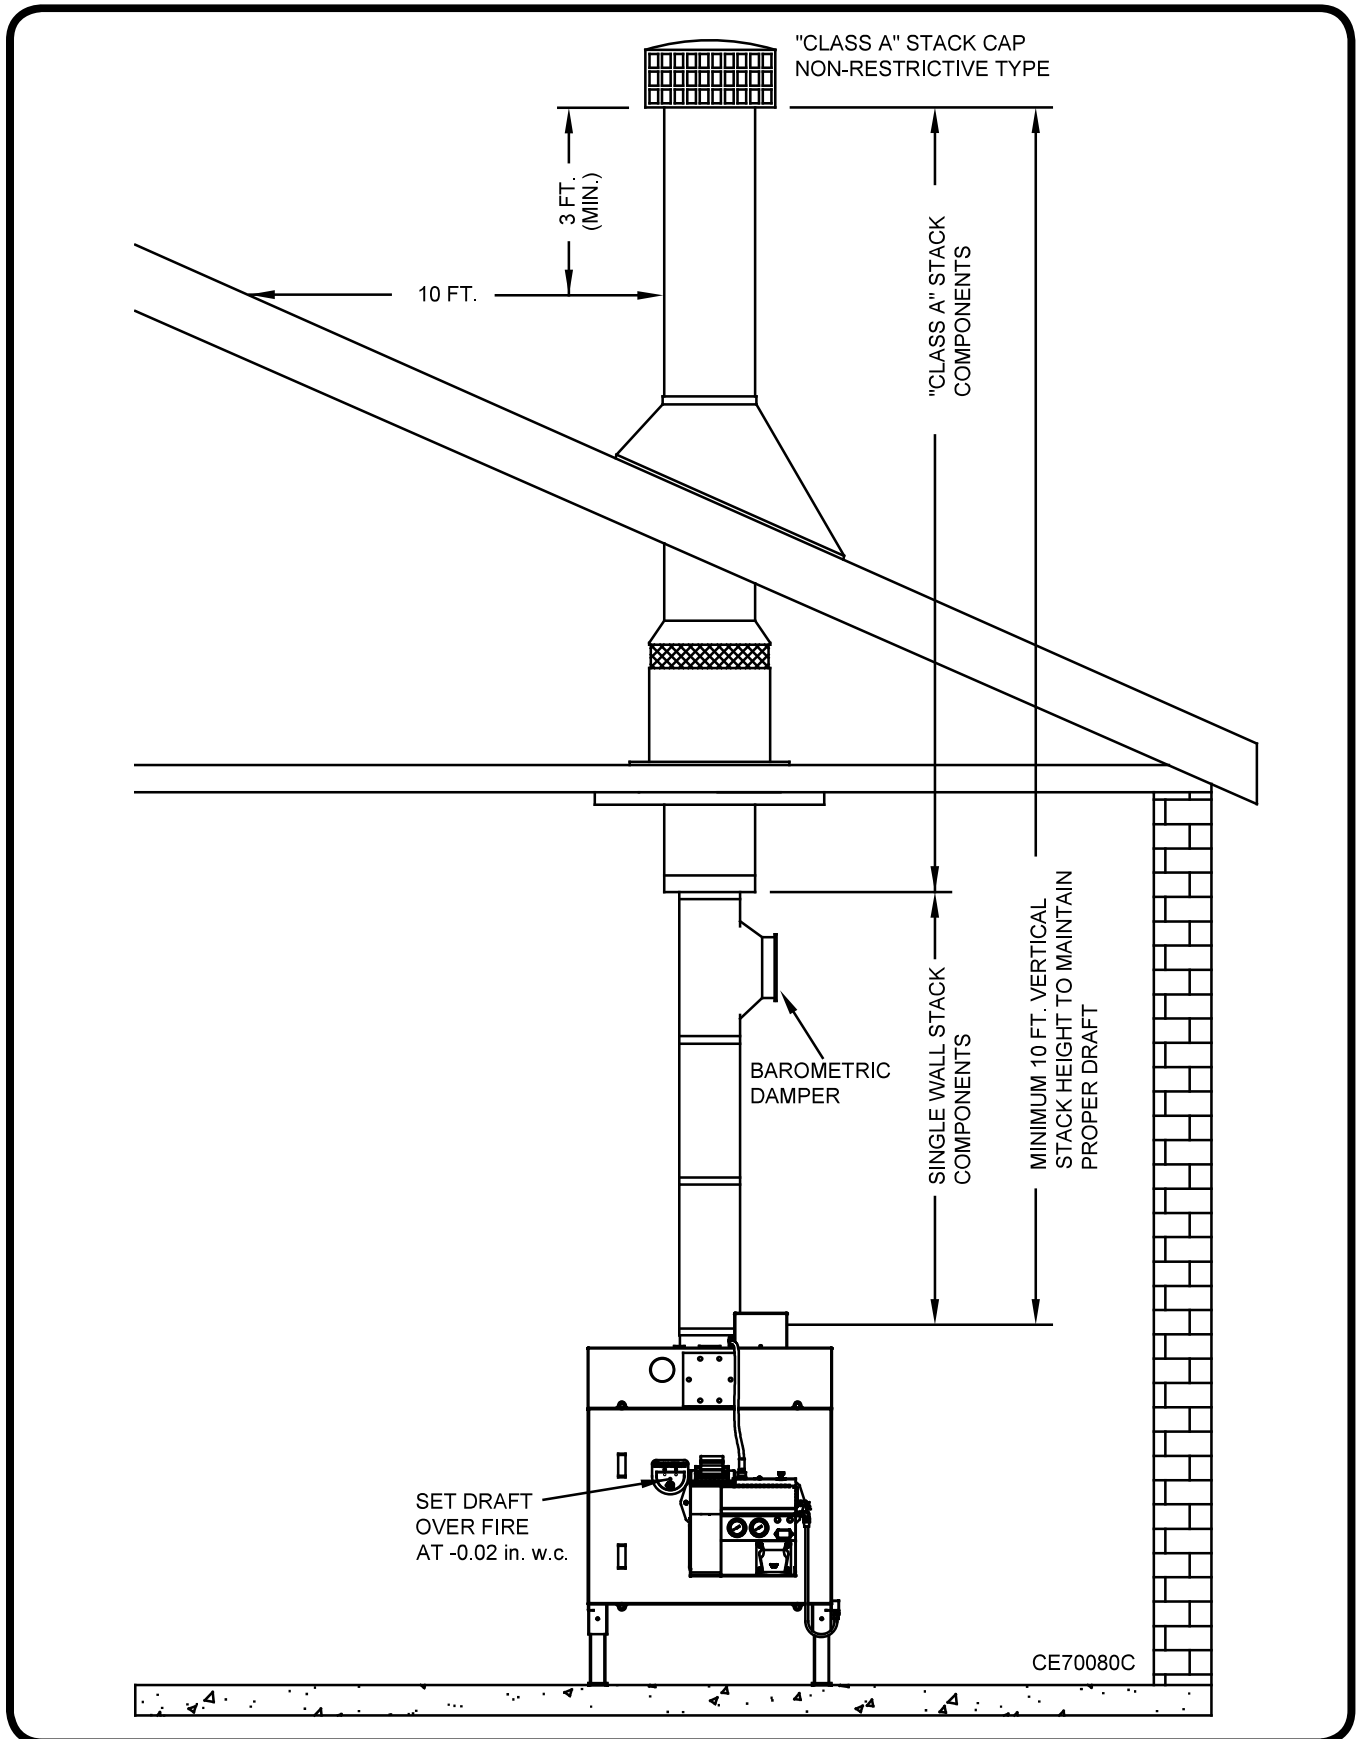
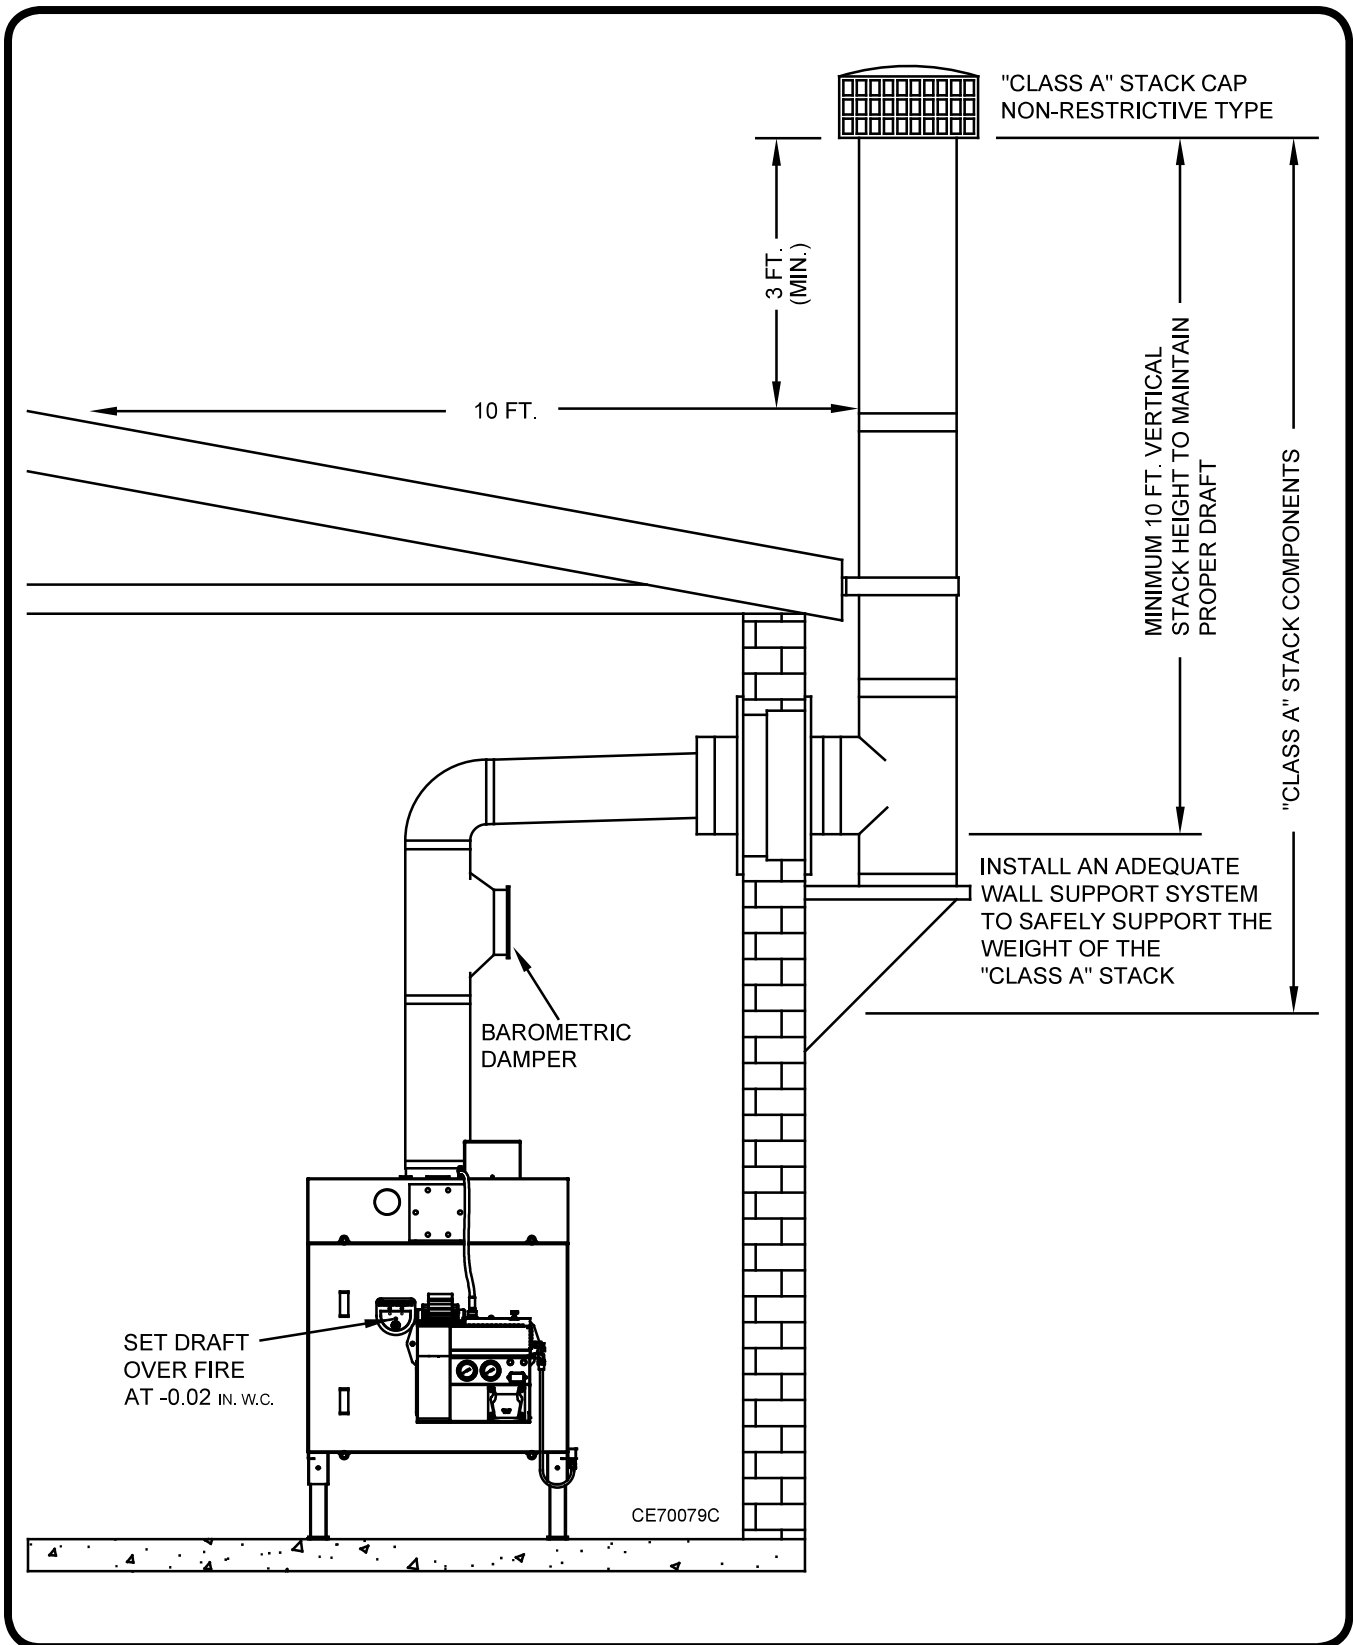

Figure 10: Typical Through-the-Roof Chimney Illustration
Figure 11: Typical Through-the-Wall Chimney Illustration
- (1) Refer to Figure 10 for a typical through-the-roof chimney illustration and Figure 11 for a typical through-the-wall chimney illustration.
- (2) Observe the following requirements when installing the chimney:
- (3) Single wall stack may be used inside the building. Observe proper clearances from combustibles. Do not put single wall stack in areas that may create a burn hazard to personnel.
- (4) Install a barometric damper, as shown in Figures 10 and 11, so that proper draft can be maintained. Follow the instructions provided with the damper for proper installation.
- (5) Use double wall “Class A” insulated stack when making a penetration through the roof or side wall of your building. Install proper flashing around the exterior penetration of the stack to make a water tight seal.
- (6) Install a “Class A” non-restrictive stack cap only.